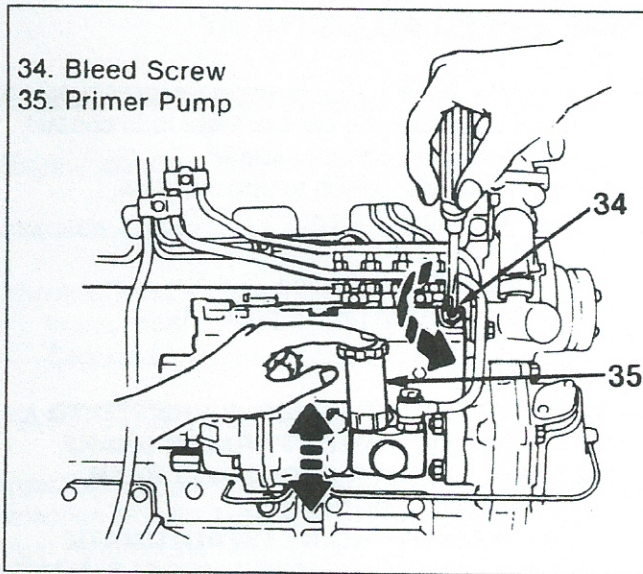

Figure 21. Bleeding the Fuel System
Anytime the fuel system is opened to the atmosphere, outside air can enter. Air bubbles, trapped in the fuel system, will cause the engine to run poorly. After any service that requires opening the fuel system has been performed, all trapped air must be removed by bleeding the system (figure 21).
5. Disconnect the fuel line from the #1 cylinder fuel injection (figure 21).